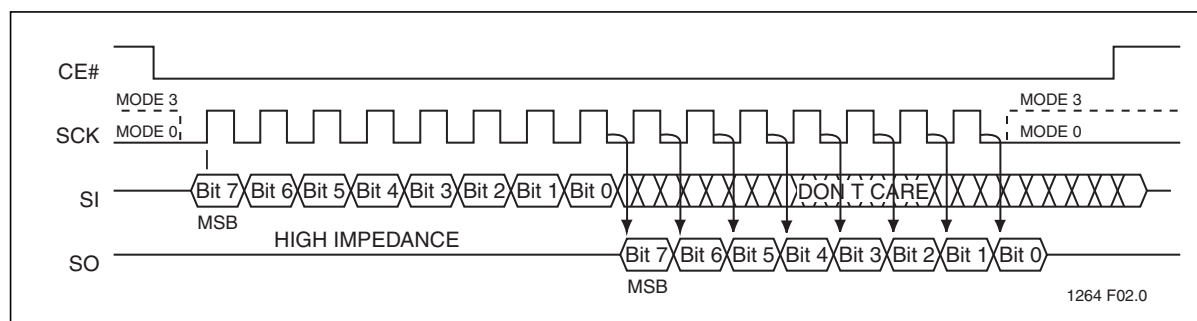

Figure 3: SPI Protocol
The SST25VF512A supports both Mode 0 (0,0) and Mode 3 (1,1) of SPI bus operations. The difference between the two modes, as shown in Figure 3, is the state of the SCK signal when the bus master is in Stand-by mode and no data is being transferred. The SCK signal is low for Mode 0 and SCK signal is high for Mode 3. For both modes, the Serial Data In (SI) is sampled at the rising edge of the SCK clock signal and the Serial Data Output (SO) is driven after the falling edge of the SCK clock signal.